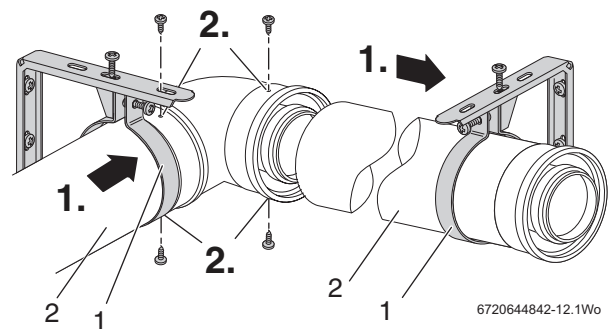

Fig. 26 Extensions
1. Slide the support clamp (optional item 3) onto the flue extension as shown.
2. Push fit the extension (4) as far as possible into the flue turret.
- Refer to figure 26 and slide the support clamps (1) onto the additional flue extensions (2).
1. Working from the boiler, fit the support clamps (1) and extensions (2), to take the weight of the flue.